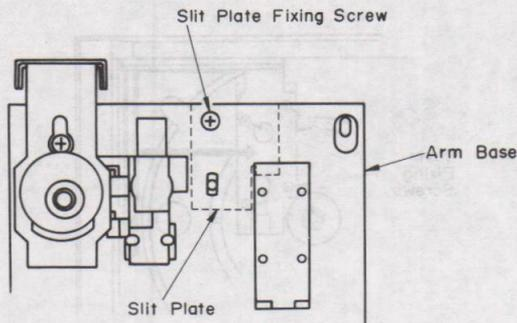

Fig. 14
- 2) Remove slit plate attached to arm base in Fig. 14.